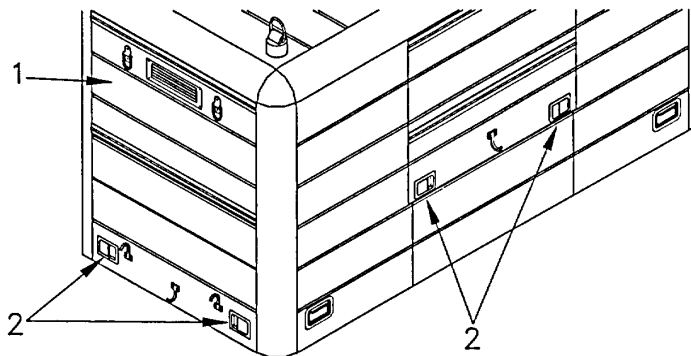

Figure 2-1. Flush-Mounted Door Latches
- a. Door Latches. (Refer to figure 2-1).